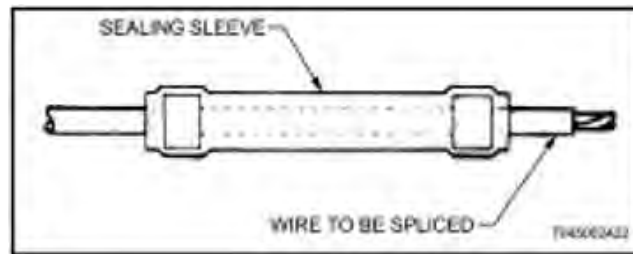

Figure 192
10. Slide primary wire heat sleeve onto the longer of each wire (Figure 192), ensure the narrowest opening of the sleeve goes first (away from contact).